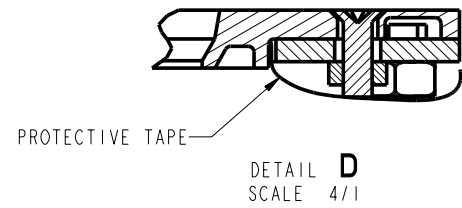

FIGURE 1
PROBLEM (FIG 1)
**PROBLEM (FIG 1): THIS DESIGN CAUSES THE TOUCH SYSTEM TO TILT.** THE PROPER OPTO ALIGNMENT IS NOT ACHIEVED DUE TO TAPE/GASKET MOUNTED TO CUSTOMER PANEL IS TOO WIDE. SEE SOLUTIONS BELOW.
APPLY PROTECTIVE TAPE TO THE TOUCH SYSTEM AS SHOWN IN FIGURE 1, BETWEEN CIRCUIT BOARDS AND INSERT ON ALL 4 SIDES, LAY THE TAPE OVER THE CIRCUIT BOARDS, TO PROTECT THE CIRCUITRY FROM THE ADHESIVE DURING APPLICATION AND CURING.